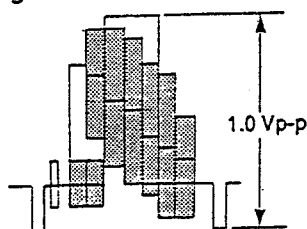

Figure 2-4.
6. Repeat the above step 5 to finally get the playback video signal level at 1.0 ± 0.04 Vp-p, as shown in Figure 2-4.